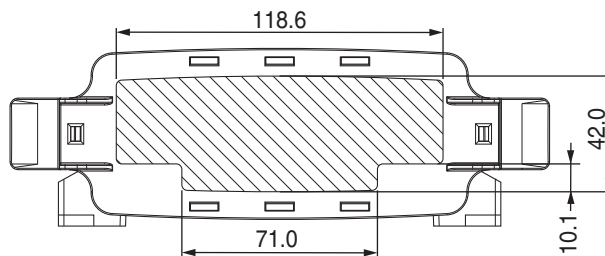

Figure 8 Available connector area for ECS-P...B
The ECS-P...B faceplate allows placement of connectors as desired within a certain area on the faceplate. The placement and number of connectors that can be added to the ECS-P...B (GY) is limited to within the area defined in Figure 8.